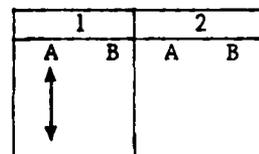

Figure 7. Vertical Connections
1. As shown in Figure 7 below, some cable connections run straight up and down. these connections stay within the same system and within the same component of that system. Vertical connections always run between connectors (between rows).